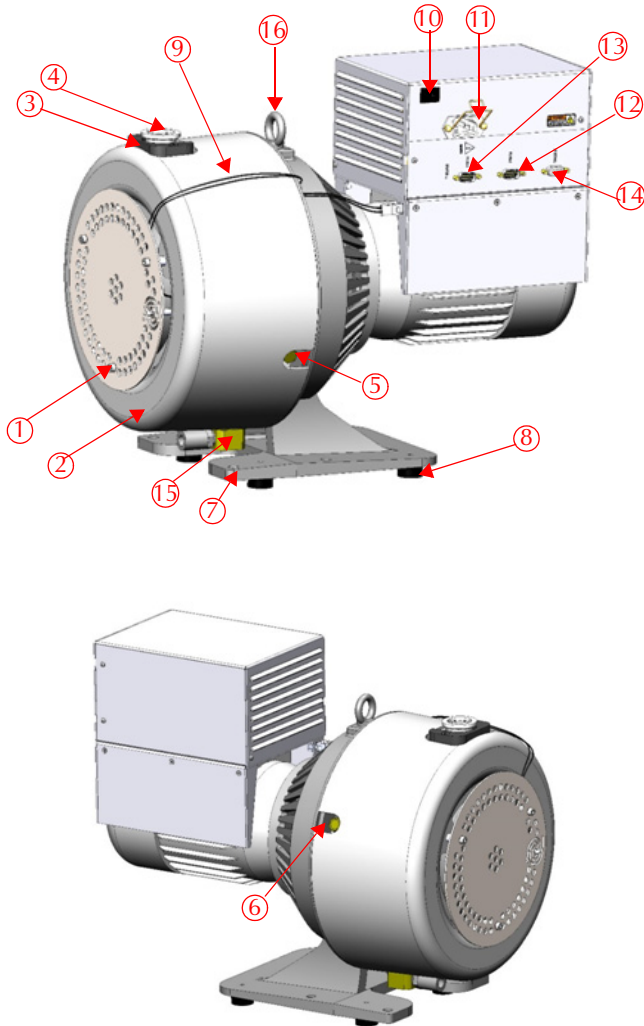

Figure 7 TriScroll 620 INV Vacuum Pump
The pump incorporates an automatic gas ballast to prevent water and other condensates from accumulating within the pump. The standard configuration is a sintered filter installed in the 1/4" National Pipe Thread gas ballast port (item 8 on Figure 7 on page 17). This allows enough atmospheric air to enter the pump in order to purge condensates while not affecting pump ultimate pressure or pumping speed.
For applications where the ingress of atmospheric air is undesirable, dry nitrogen at a flow rate of ≈ 5 lpm can be bled into the gas ballast port. See item 8 on Figure 7 on page 17. Blocking of the gas ballast port is not recommended.
A 1/4" National Pipe Thread bearing purge port (item 5 on Figure 7 on page 17) protects the main crankshaft bearings in applications where large amounts of water are being pumped. In the standard configuration, this port is sealed.
The gas ballast port (item 9 on Figure 7 on page 17) is sealed on the TriScroll 620 INV.
The bearing purge port (item 6 on Figure 7 on page 17) is sealed on the TriScroll 620 INV and must not be opened or used.